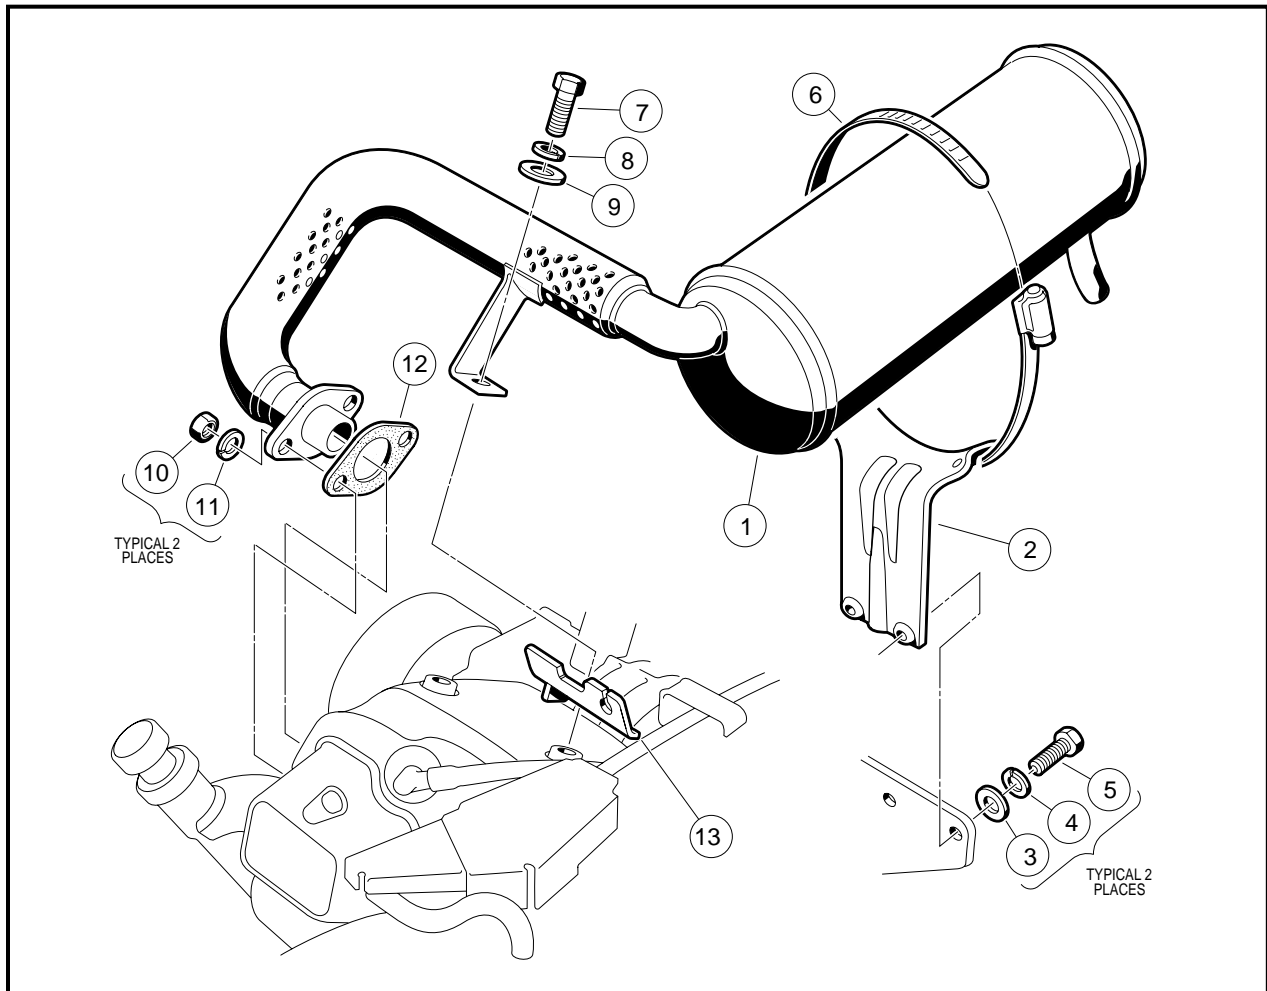

Figure 15-2 Exhaust System
3. Remove the hex nuts (10) and lock washers (11) (**Figure 15-2, Page 15-3**).
4. Remove the hex head cap screw (7), lock washer (8), and flat washer (9).
5. Remove the retaining bolts (5), lock washers (4), and flat washers (3) from the muffler bracket (2).
7. Remove the muffler clamp (6) from the muffler bracket (2).
- ANY TIME THE MUFFLER IS REMOVED FROM THE VEHICLE, INSTALL A NEW MUFFLER CLAMP (6) (CLUB CAR PART NO. 1017689) AND MUFFLER GASKET (**FIGURE 15-2, PAGE 15-3**).
1. Use the muffler clamp (6) to attach the muffler bracket (2) to the muffler as shown (**Figure 15-2, Page 15-3**). Leave the muffler clamp loose enough to allow the muffler to move as the mounting hardware is tightened. If installing a new muffler, use the old one as a positioning guide for the clamp and bracket.
2. Place a new gasket (12) on the exhaust manifold mounting flange as shown.
3. Position the muffler and bracket assembly, and the governor cable bracket (13) and install the bolts (5), lock washers (4), and flat washers (3). Thread the bolts in only enough to support the muffler and bracket assembly. Do not tighten them.
4. Install the hex nuts (10) and lock washers (11). Tighten the nuts fingertight.
5. Install the flat washer (9), lock washer (8) and hex head cap screw (7). Tighten the cap screw fingertight.
6. Tighten the hex nuts (10) to 11 ft-lb (14.9 N·m).
7. Tighten the hex cap screw (7) to 14 ft-lb (18.9 N·m) (**Figure 15-2, Page 15-3**).
8. Tighten the muffler clamp (6) to 40 in-lb (4.5 N·m).
9. Tighten the muffler bracket mounting bolts (5) to 75 in-lb (8.5 N·m).